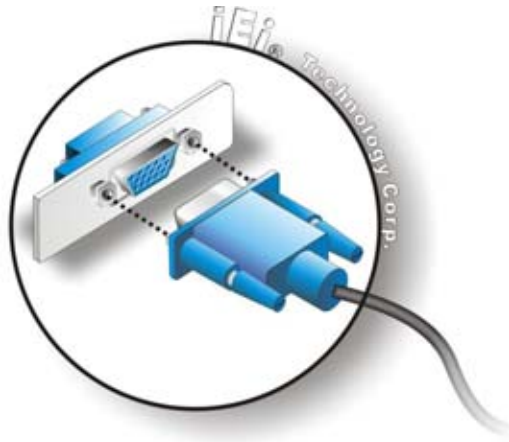

Figure 2-11: VGA Connector
Step 3: **Insert the VGA connector** Once the connectors are properly aligned with the insert the male connector from the VGA screen into the female connector on the AFL-W19A/W19B/17D/W15A-N270. See Figure 2-11.